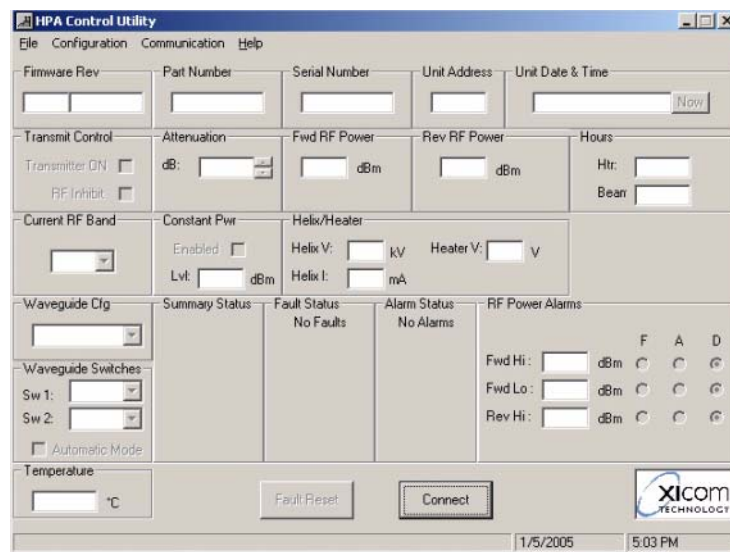
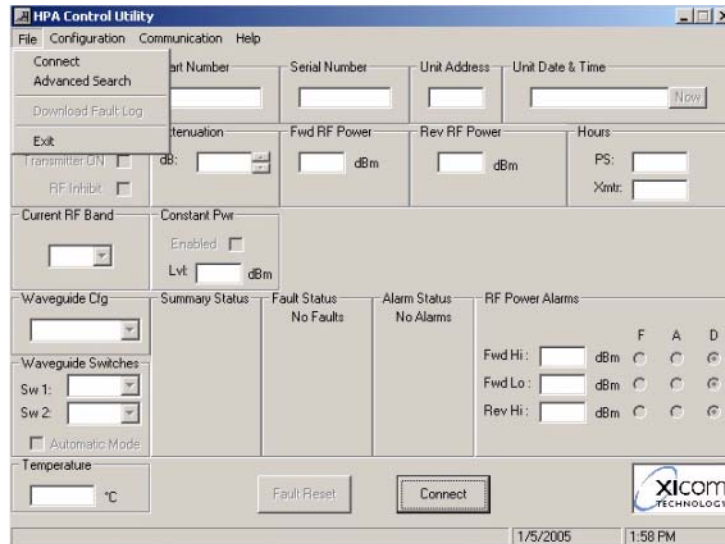

Figure 1, Primary User Interface - Disconnected
Figure 2, Primary User Interface – File Menu when disconnected
1. Refer to Figure 1 on page 5 and Figure 2 on page 6. If this is the initial time running the program, select "Connect" in the lower center, or "File -> Connect" to scan the first 5 addresses used for amplifiers. All baud rates will be tested for these amplifiers. If you want to test ALL possible RS485 addresses, select "File -> Advanced Search" and all possible addresses and baud rates will be tested. This search will take much longer than the normal "Connect" search as all possible baud rate, parity, and data bit combinations are queried.